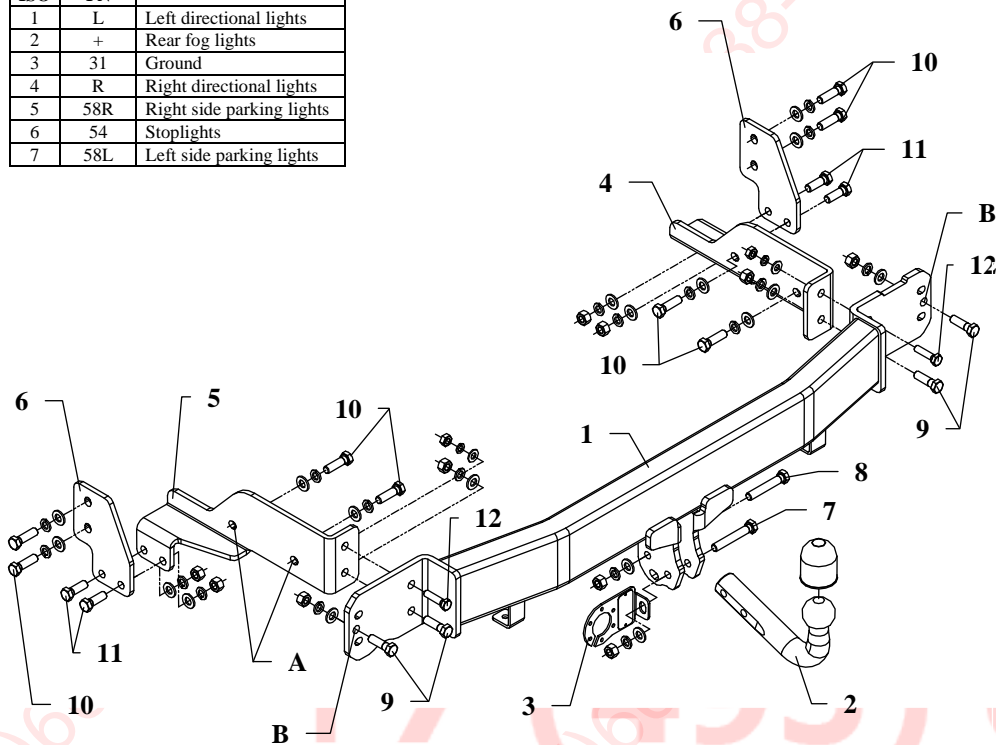

Fig. 1
10. Fix tow ball (pos. 2) using bolt M12x75mm (pos. 7) and M12x70mm (pos. 8). With bolt M12x75mm fix also a socket plate (pos. 3). See figure 1.